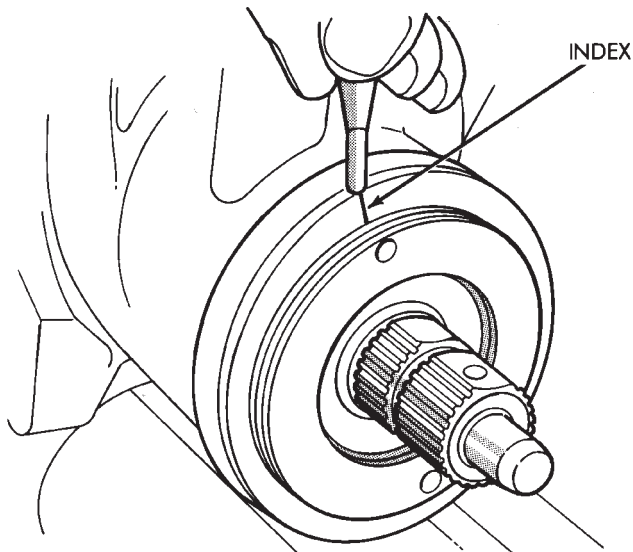

Fig. 9 Alignment Marking On Housing
(2) Turn the adjuster in with Spanner Wrench C-4381. Tighten the plug and thrust bearing in the housing until firmly bottomed in housing.
(3) Place an index mark on the housing even with one of the holes in adjuster plug (Fig. 9).